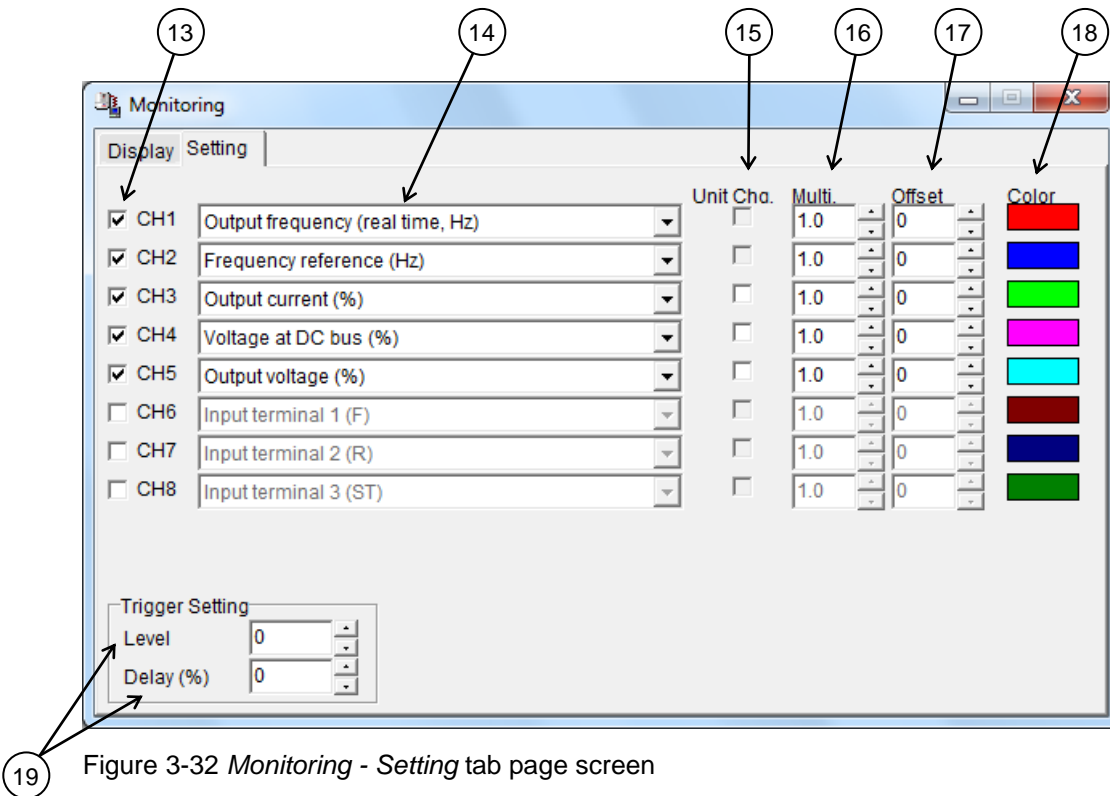

Figure 3-32 Monitoring - Setting tab page screen
Trigger level: This can be set dragging the trigger level marker (5) with the mouse, or is set up using "Trigger Setting" - "Level (Figure 3-32 (19))".